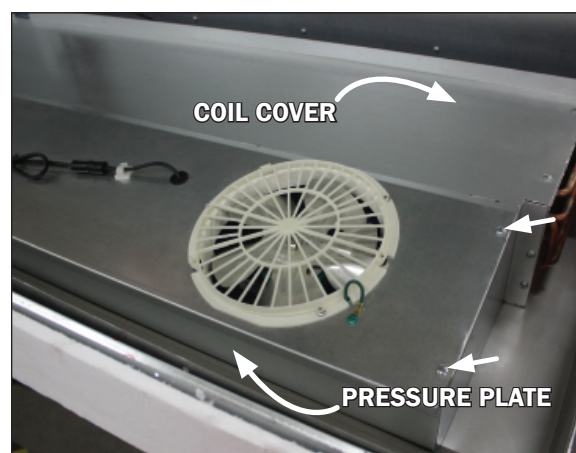
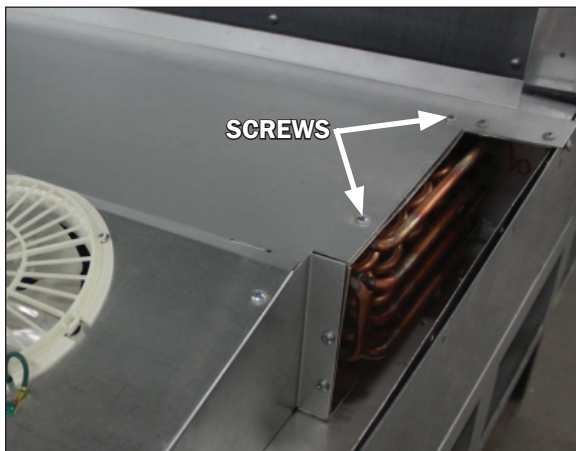

Fig. 12 Pressure plate, screw locations and coil cover (topside)
Fig. 15 Coil cover removal
2. To access the underside of the fans first remove the screws on the top ends and front sill of the pressure plate cover (Fig. 12). Lift the pressure plate by use of the
2. Remove the top two screws at both ends of the coil cover (Fig. 15), as well as the screws from the top ends and front sill of the pressure plate cover (Fig. 12). **Be sure to save the removed screws for reassembly.**